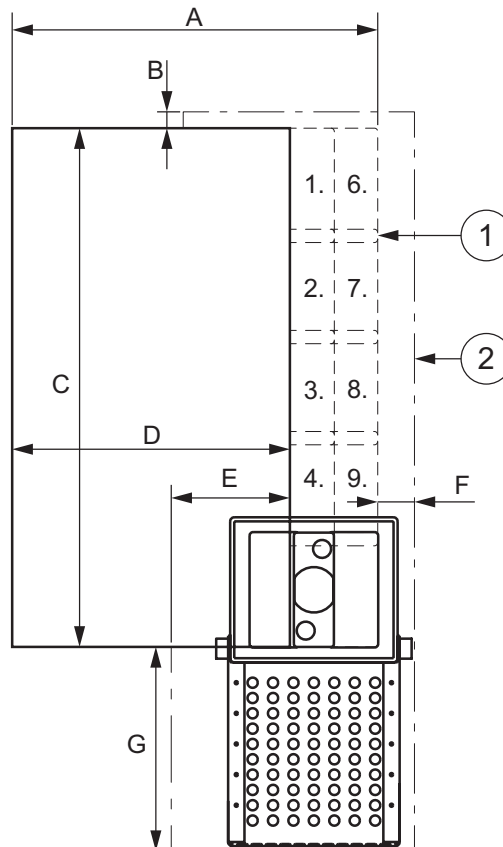

Figure 4: Cutting order on the front side of the switchgear door
Figure 4 illustrates the cutting order on the front side of the switchgear door when the cutout is widened to the right. The left side cutting is symmetrical but to the left.
It is recommended to use the gatherer. Figure 4 illustrates the needed free space when the gatherer is in use.
6. Make five cuts 1...5/6...10 one below the other (see figure 4).